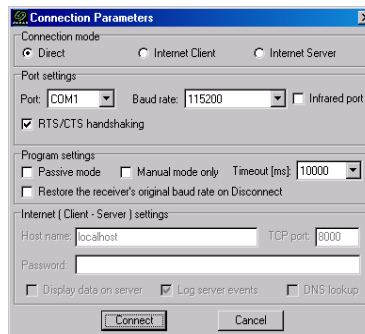

Figure 1-1. Connection Parameters
Once PCView is launched, the **Connection Parameters** window will appear (Figure 1-1).
4. Press **Connect**. Figure 1-1 on page 1-6 shows an example of the **Connection Parameters** window for this connection type.